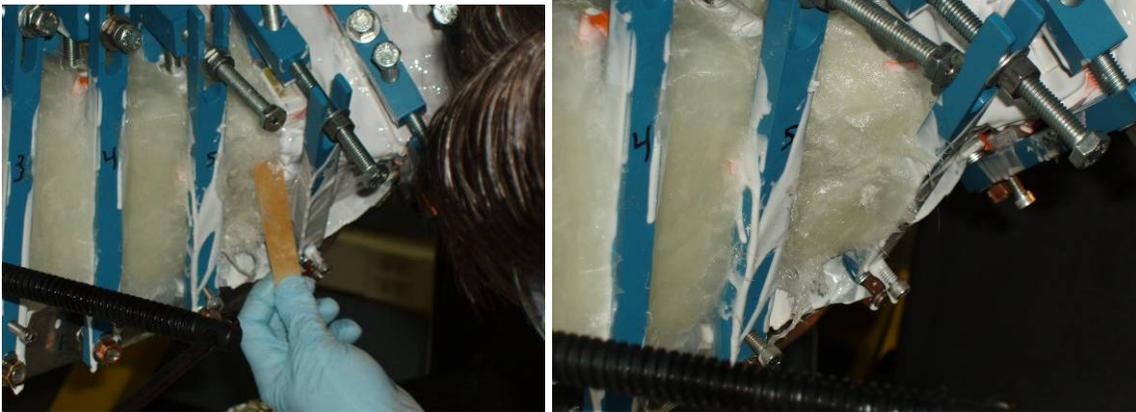

Figure 57-Application Epoxy Glass Shell
- 6.49.24 Begin applying the “Cotton Candy” over all areas of the exposed silicone bag mold between side bars to a thickness of at least ¼ inch. Build up the areas around the sprues to provide additional support. [Figure 57-Application Epoxy Glass Shell]